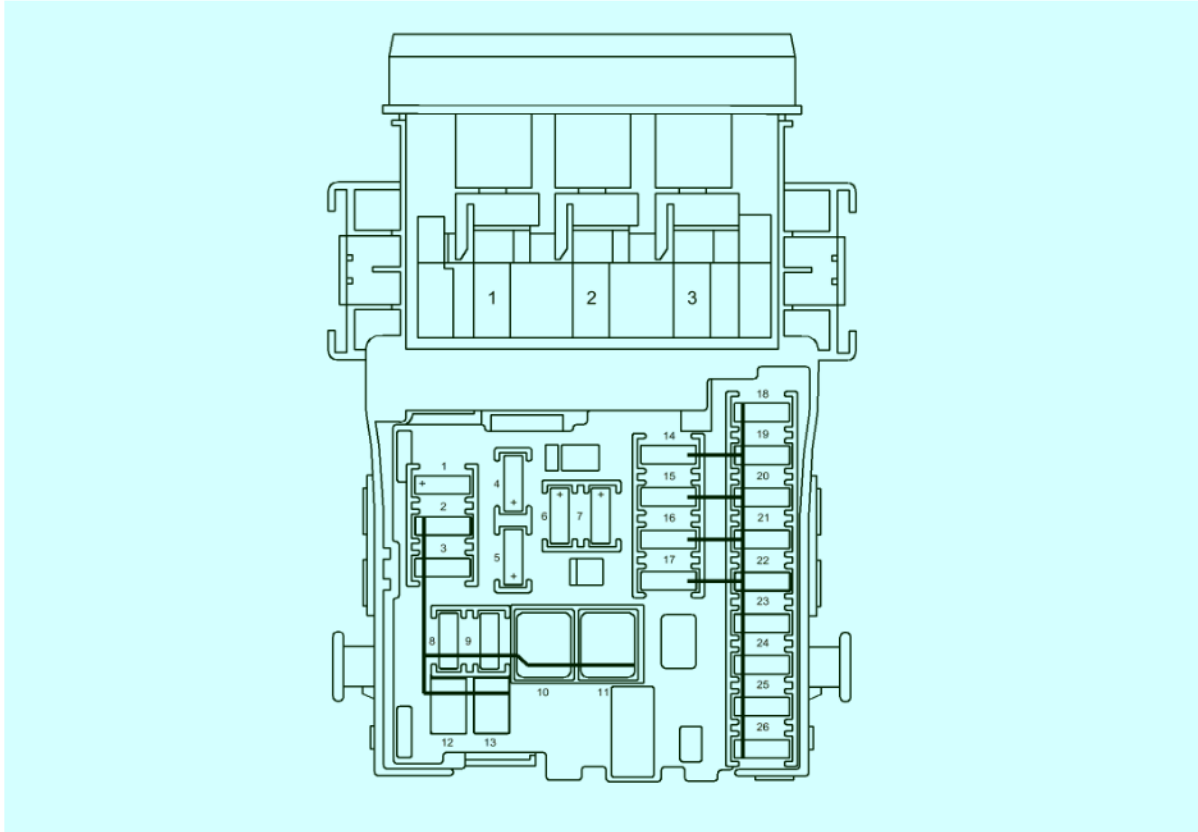

Fig. 5: Instrument Panel Fuses (Cruze)
- **2011-16 Cruze** : Fuse #21 (F21DA) Under Dash (Fig. 5)